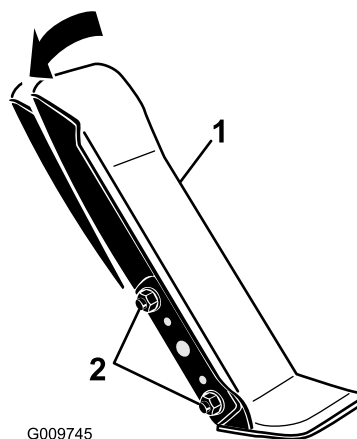

Figure 65
1. Loosen the 2 nuts and bolts securing the left side of the traction pedal to the bracket (Figure 65).
2. Pivot the pedal to the desired operating angle and tighten the nuts (Figure 65).